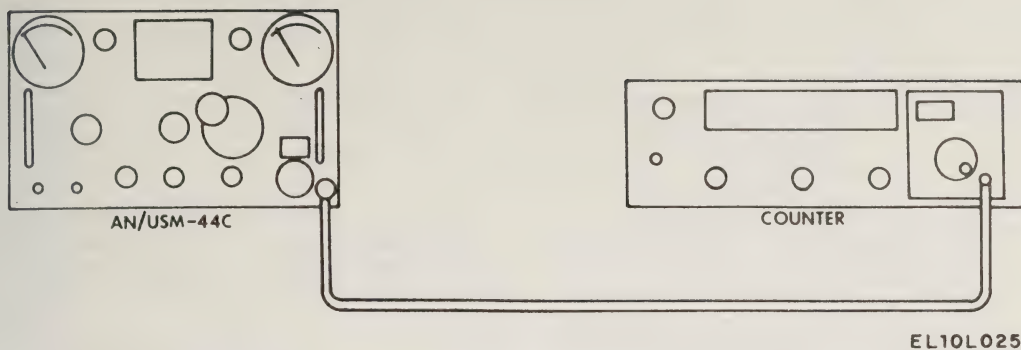

Figure 7-17. Frequency accuracy test setup.
c. Connect test equipment as shown in figure 7-17.